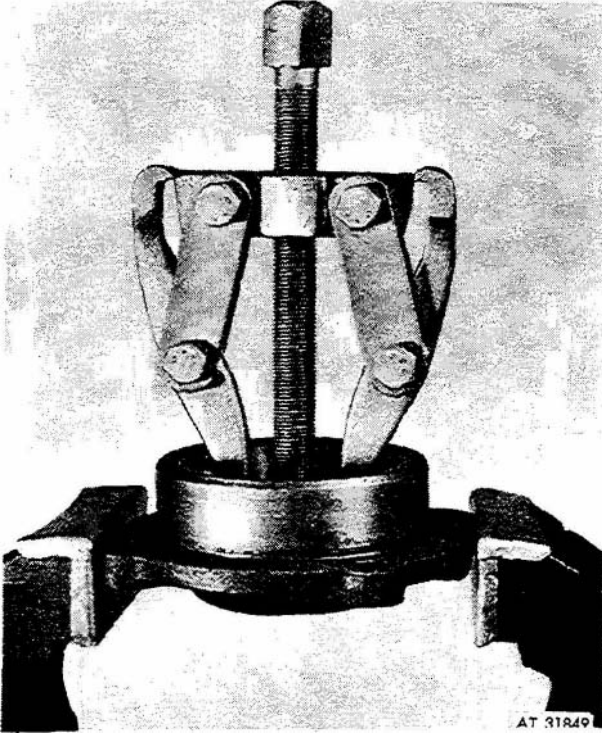

Figure 3-53. Removing bearing cup from cover.
(19) Using a suitable puller, remove bearing cup of bearing (35, fig 3-47) from cover (40) as shown in figure 3-53.